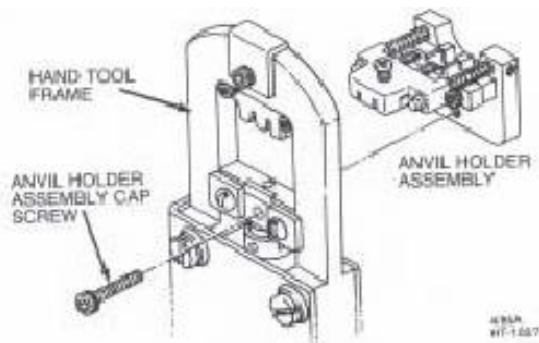

Figure 6
1. Remove the cap screw securing the anvil holder assembly to the hand tool (see Figure 6) and then remove the anvil holder assembly.